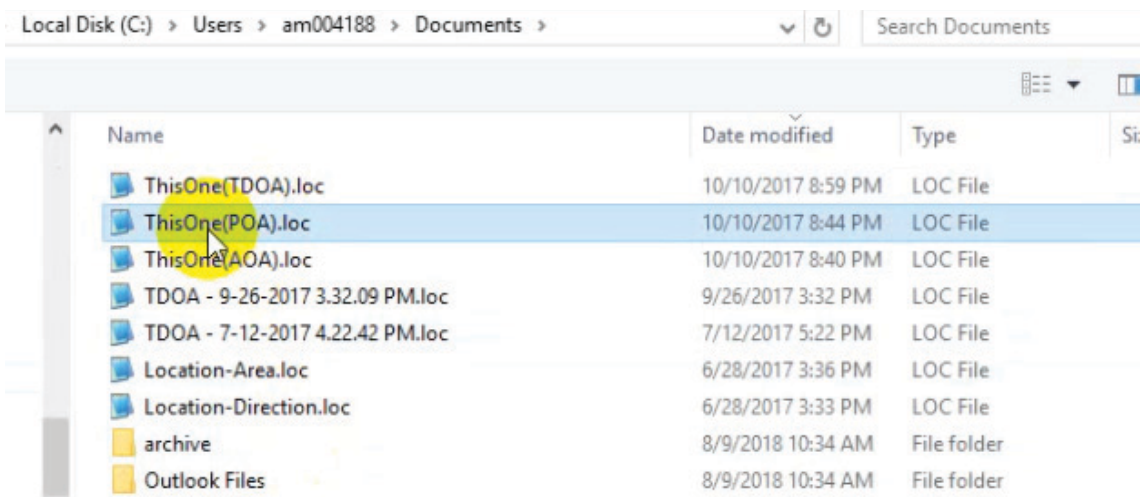

Figure 4-18. Click .loc file to Import
2. Click a .loc file as shown in Figure 4-18.